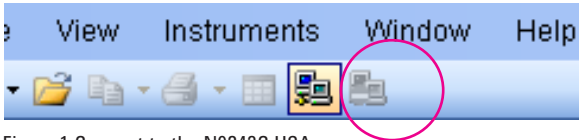

Figure 1 Connect to the N9342C HSA
- Click the connection shortcut in the toolbar as shown in Figure 1